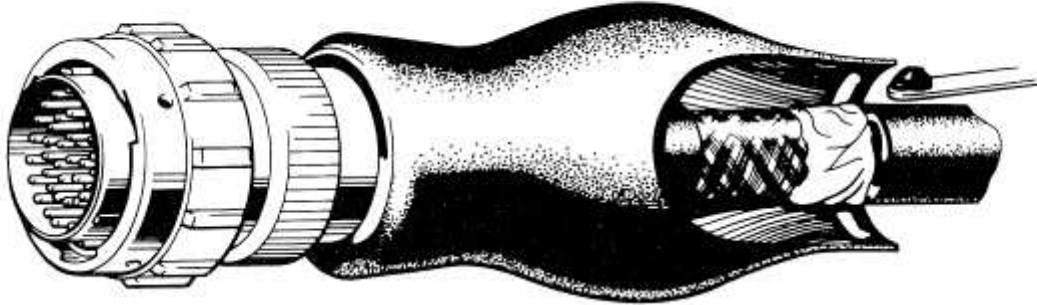

Figure 9 Adhesive application during recovery
- 5.13. Apply S1125 adhesive to the cable jacket where the 'J' end of the Rayaten Moulded Part is to be recovered and also to the uncoated area only of the Rayaten Moulded Part. See Figure 9. There should be no cross contamination of the S1125 and S1184 adhesives.